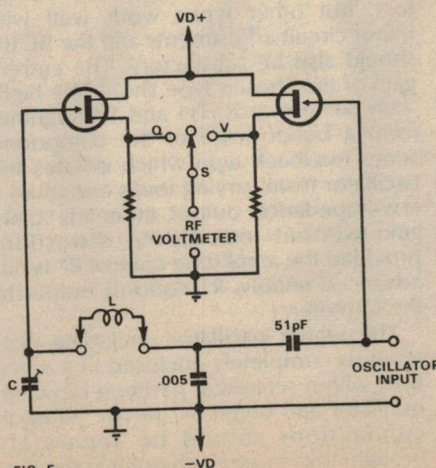

FIG. 5
This is shown, in essentials, in Fig. 5. The scheme was originally suggested by J. Luijckx(2) and his version used a twin-triode valve of RF type. In that form it works well and presents few problems, but it was felt that a semiconductor version was worth developing. It consists basically of two matched RF buffer circuits of the source-follower type, one measuring the RF input from the oscillator and the other the magnified voltage across the tuned circuit, with a switch to connect an external voltmeter to either buffer. The input of 1 volt, monitored by Tr2 and the external voltmeter with switch S set to "V", is applied to the
Field-effect transistors more nearly match the very high input resistance and low losses of the original valve circuit than do bipolar transistors. They are connected as source-followers to more thoroughly isolate the voltmeter from the tuned circuit and oscillator. In the practical circuit this thought was carried further by using MOSFETs (with insulated gate) instead of the junction FETs of Fig. 5. They are fully comparable with valves in respect of high input resistance and low RF losses, and the effect of Tr1 on the Q of the tuned circuit is then negligible.